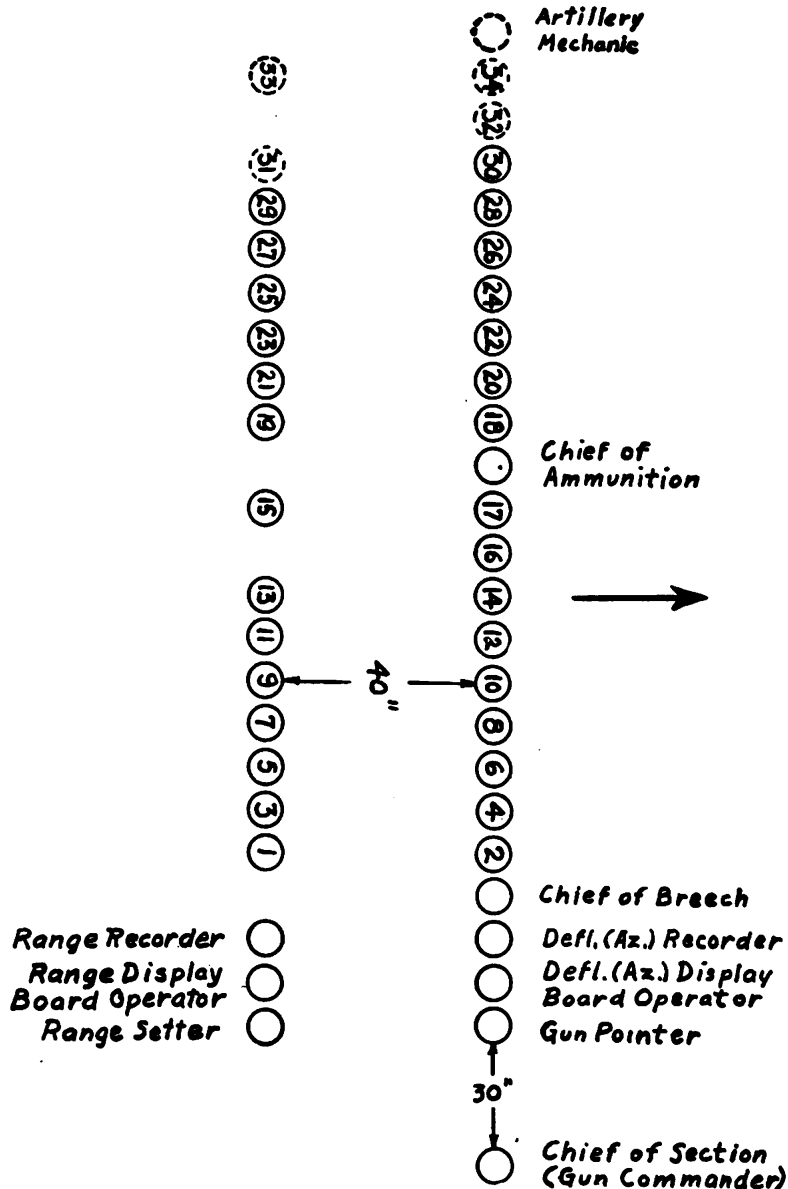

FIGURE 7.—Formation of 10-inch gun section.
13. Notes on drill.—Q. What is the formation for the 10-inch gun section (disappearing carriage)? A. See figure 7.